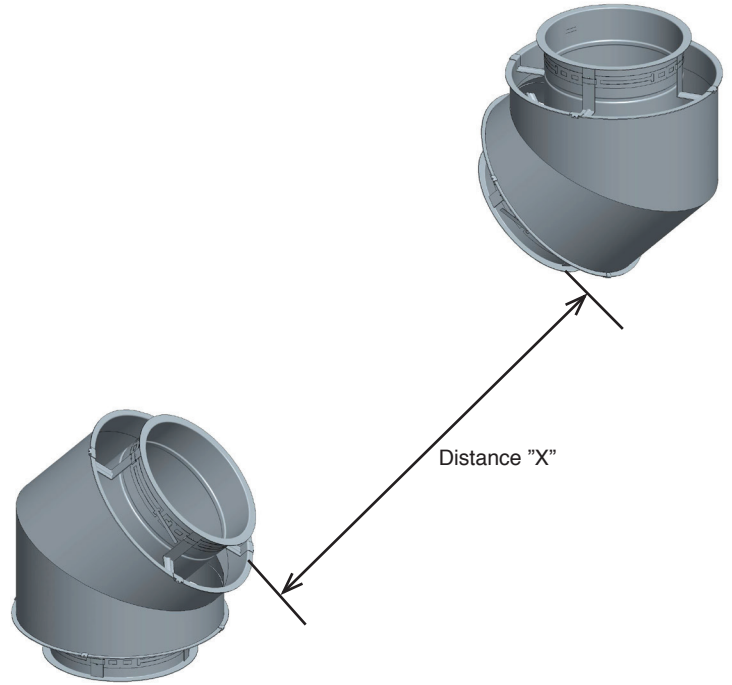

Figure 23 - Step 1 for Installation of Variable Length
1. Measure the distance X required for the variable length. See **Figure 23**.